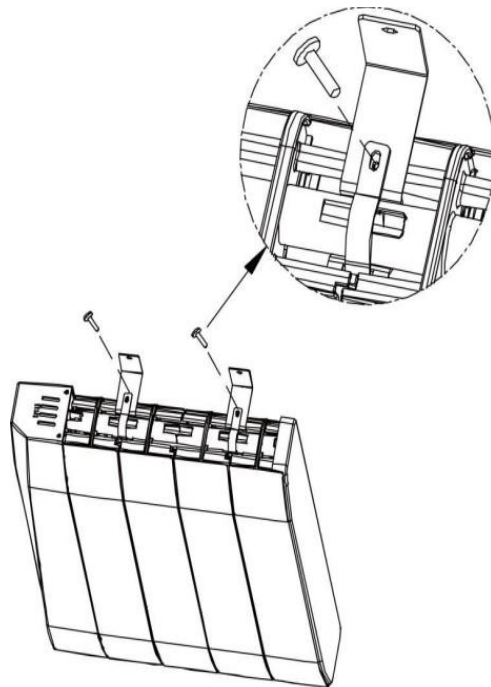

Figure 5: Securing curved plate with short screws
- Secure the curved plate into the bracket slot with the short screws (**Figure 5**).